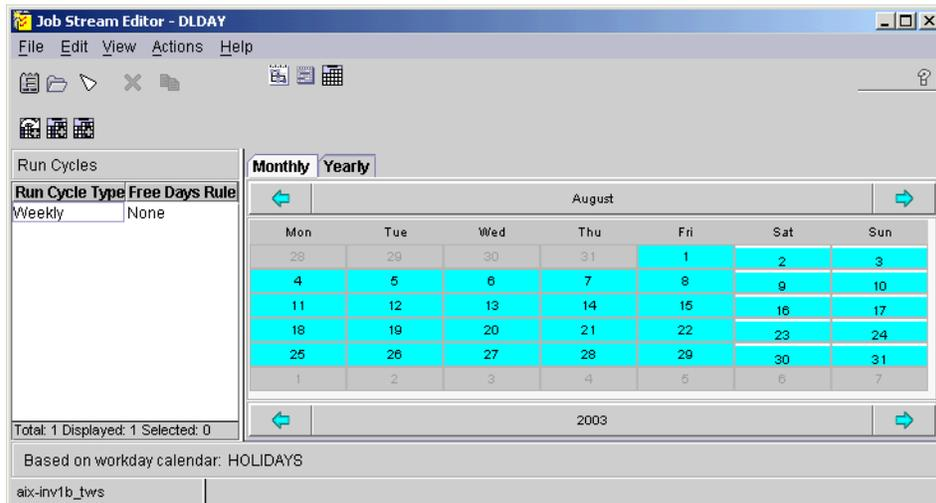

Figure D-16 Job Stream Editor: Run Cycle
21. Click **OK** to update the job run cycle, as shown in Figure D-16.